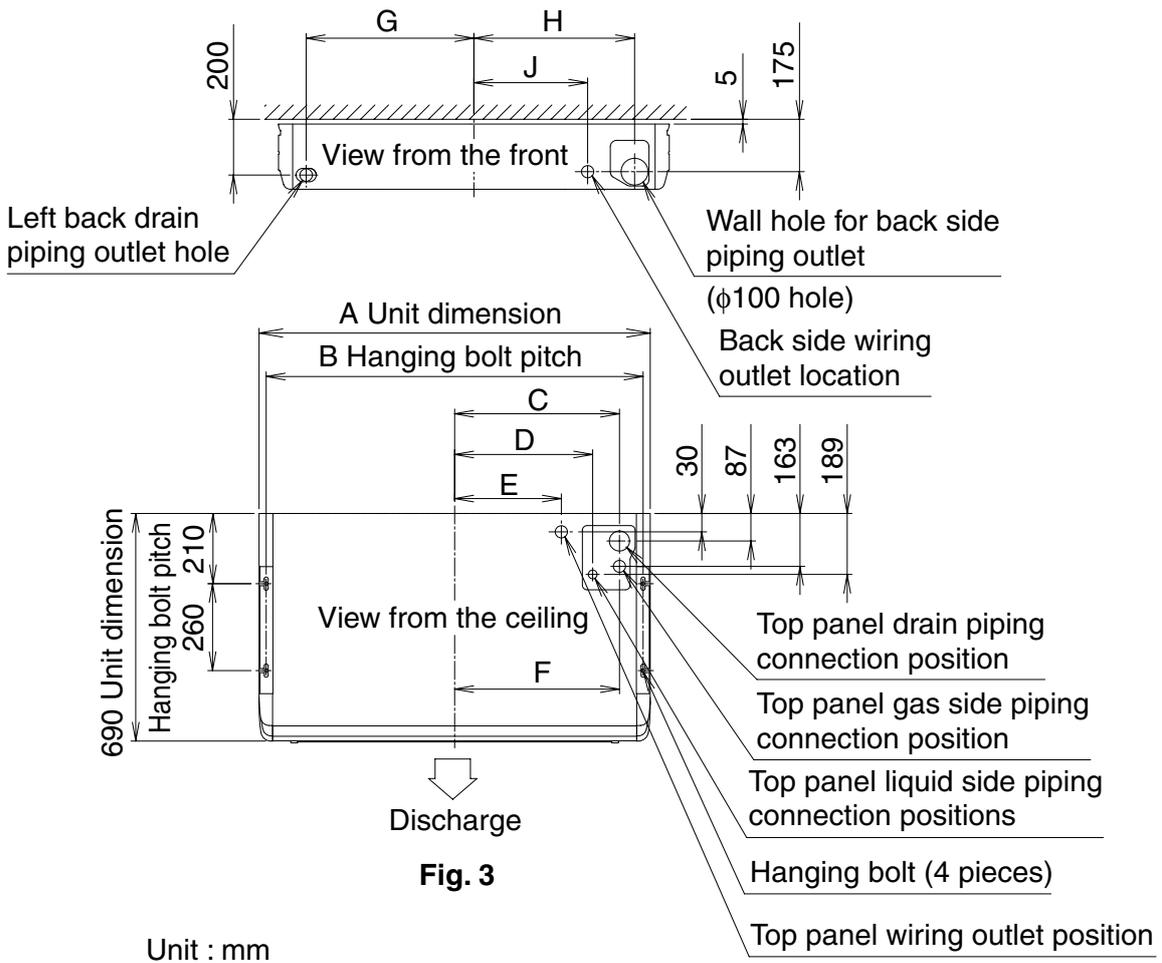

Fig. 3
(1) For the locations of indoor unit hanging bolts, piping outlet holes, drain piping outlet hole, and electric wiring inlet hole. (Refer to Fig. 3)